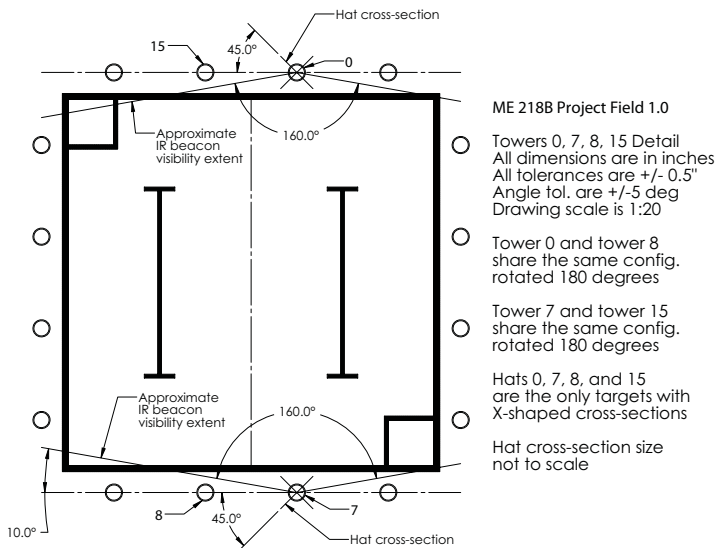
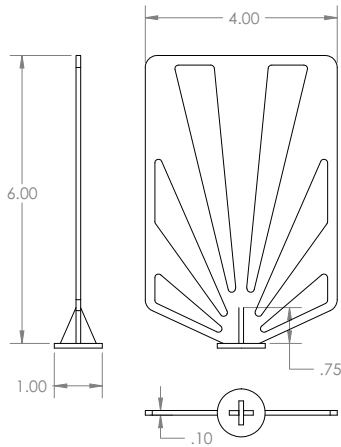

Fig. 3 Goal Tower Detail for towers 0, 7, 8 & 15
Fig. 7 Uni-Planar Hat Design
- The Hats will be of either a uni-planar or bi-planar design, as shown in Fig. 7 & 8. The locations of the uni and bi-planar designs will be as shown in Fig. 3, 4, 5 & 6.